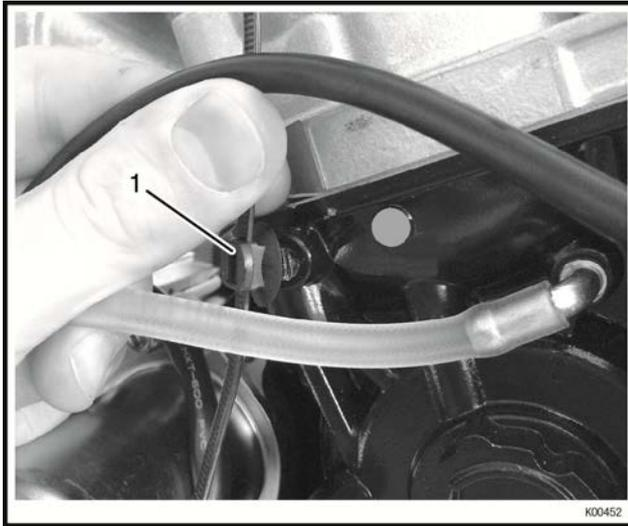

Fig. 14
- ➔ Attach cable tie wrap with mount (pos. 1) to the housing. See Fig. 14.